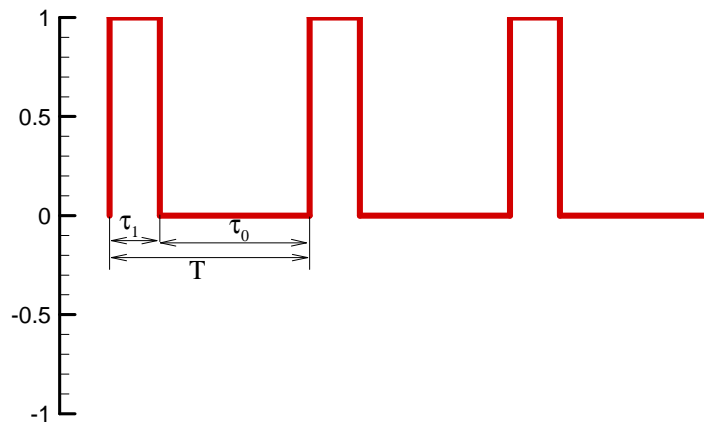

Fig. 23
- ✓ **Pulse**. In this mode, the user should assign the **Amplitude**, **Steady Component**, **Frequency**, **Phase** and the **Duty Cycle** defined as $\gamma = \frac{\tau_1}{T}$ (see Fig.23).